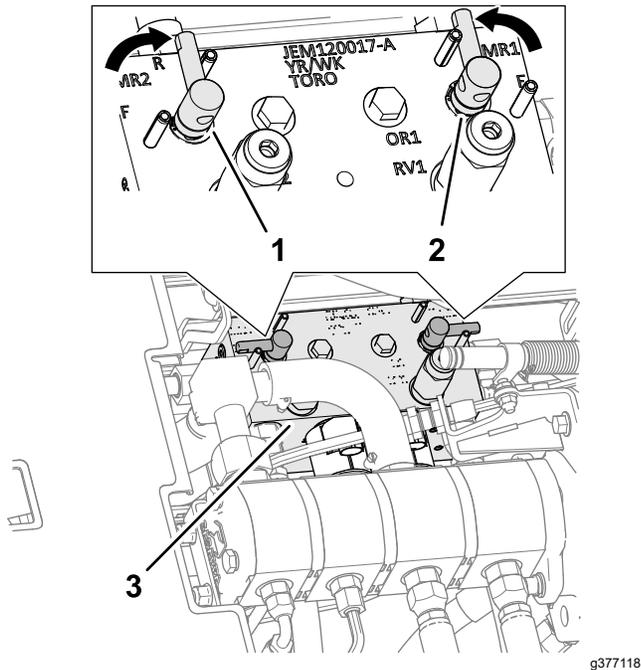

Figure 106
4. Unlock and raise the seat to expose the mower manifold (Figure 106).
5. Move the backlap levers to the R (backlap) position (Figure 106).